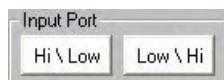

FIG. 60 Input Port buttons
1. Click on either of the **Input Port** buttons in the System window (FIG. 60).